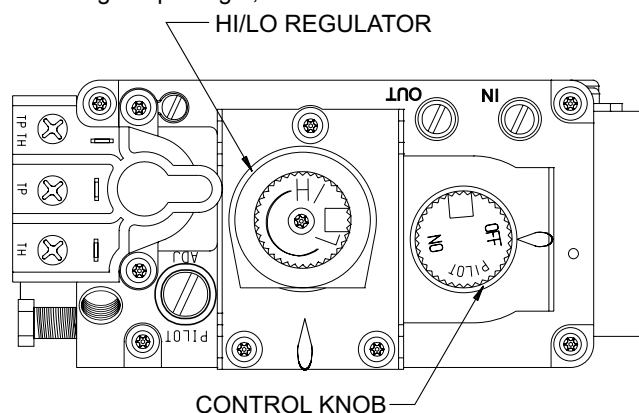

Figure 64
**NOTE:** The gas control valve allows you to increase or decrease the height of the main burner flame. The control valve has a pressure regulator with a knob as shown in Figure 64. Rotate the knob clockwise to “HI” to increase the flame height and counterclockwise to “LO” to decrease the flame height.